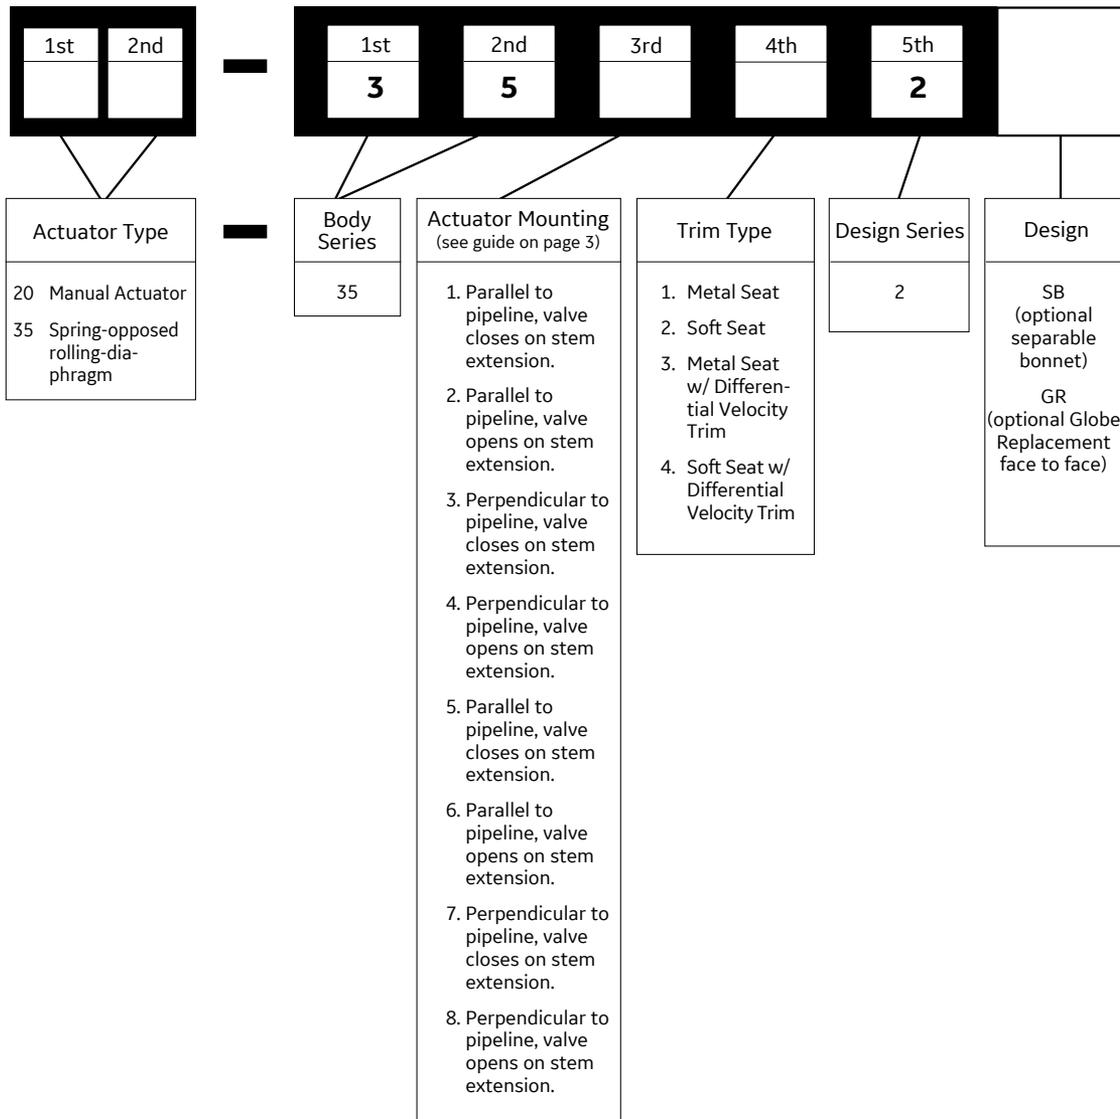

Figure 1
of the valve are shown on the serial plate. Refer to Figure 1 to identify the valve model.
- A. Check the model number on the serial plate (56) against the numbering System described in Figure 1 to determine the valve mode.